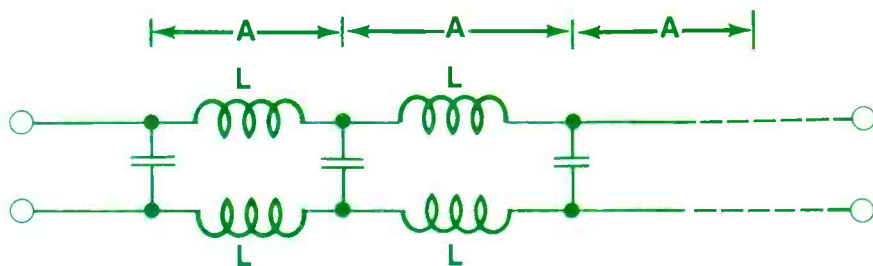

Figure 1. A transmission line can be viewed as having distributed capacitance and inductance.
A transmission line can be viewed as having distributed capacitance (C) and inductance (L). The capacitance is due to the mutual proximity of the conductors, either side-by-side as in twisted pairs and twin lead, or concentrically as in coaxial cable. The inductance comes from the natural inductance of the conductors in the cable. Figure 1 is a model of a transmission line. If we take dimension A as a unit of length (i.e. foot, meter, etc), then L is the inductance per unit of length and C is the capacitance per unit of length.